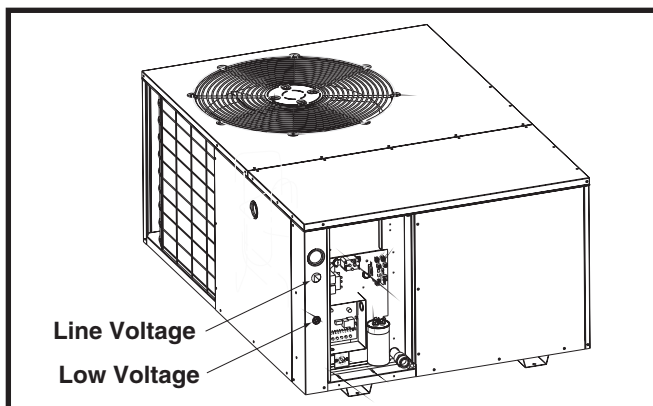

Figure 8. Power Entry
- Provide power supply for the unit in accordance with the unit wiring diagram, and the unit rating plate. Connect the line-voltage leads to the terminals on the contactor inside the control compartment. Extend leads through power wiring hole (Figure 8). Connect L1 & L2 directly to the contactor.
- The low voltage wires must be properly connected. Route 24V control wires through the sealing grommet near the power entrance. See Figure 8. Recommended wire gauge and wire lengths for typical thermostat connections are listed in Table 2.